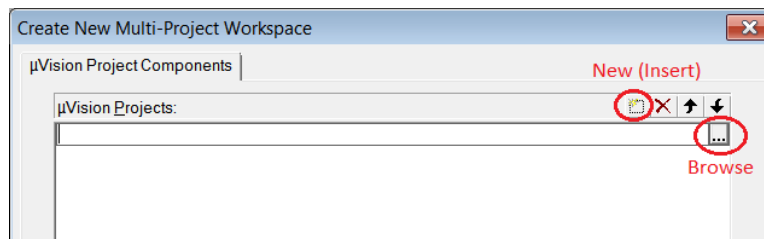

Figure 2.21: Keil IDE: Adding a μ Vision Project into Workspace
3. A new dialogue box will pop up to ask you add μ Vision projects into the workspace. Click the New button to start adding a project and click the Browse button to select a project file (see Figure 2.21).